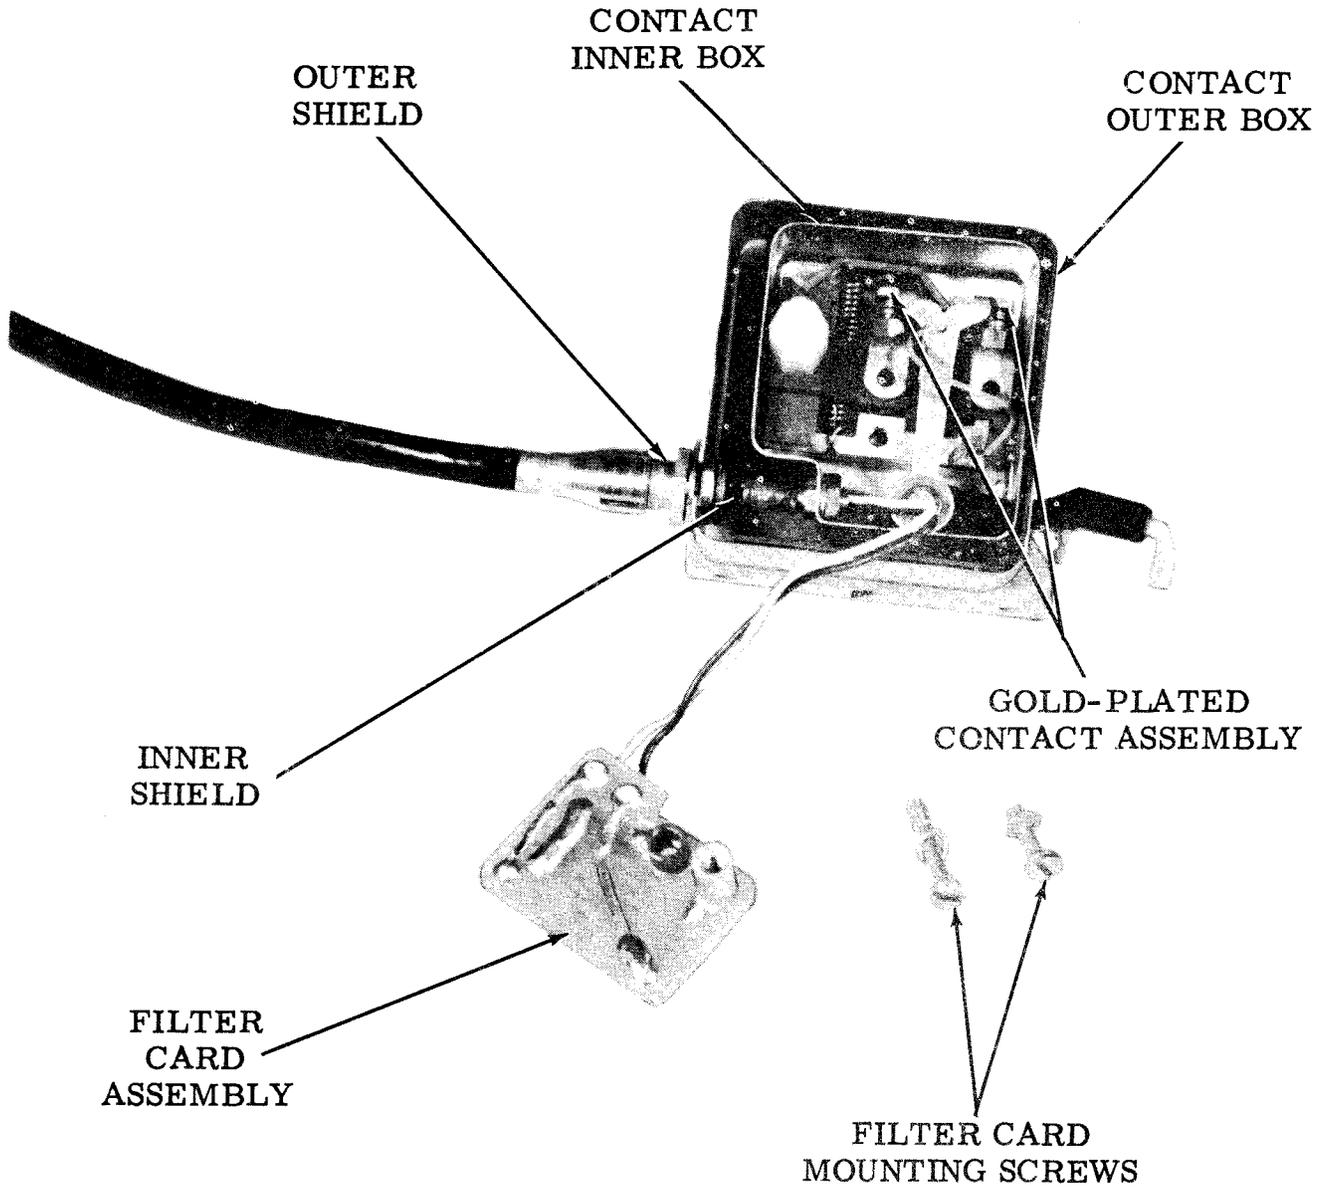

Figure 5 - Typical Signal Generator with Filter Card Assembly Removed
- 4.03 Sequential electrical signals are generated by gold-plated contacts (Figure 5) and are fed through the signal generator cable to the low level keyer. Low energy power for the signal circuit originates with the keyer card and associated power supply card.